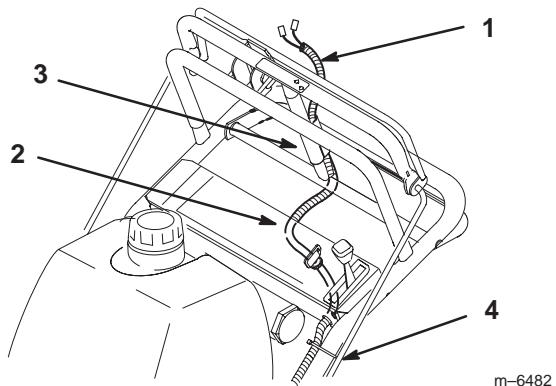

Figure 4
- Route wire harness inside of frame, along left handle and over throttle cable. Compress wire harness covering and press into lower and upper holes in rear of control panel (Fig. 4).
- Thread harness up through rear tube of traction handle (Fig. 4).
- Secure wire harness and throttle cable to left handle, away from PTO lever, with wire tie (Fig. 4).